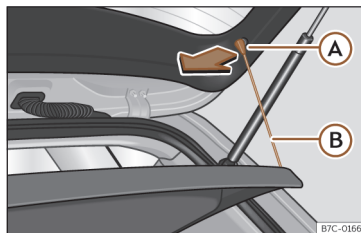

Fig. 113 In the luggage compartment: removing and fitting the shelf.
- Detach the cord loops >>> **Fig. 113 B** from their hooks **A**.
- Hook the loops >>> **Fig. 113 B** to the rear lid.